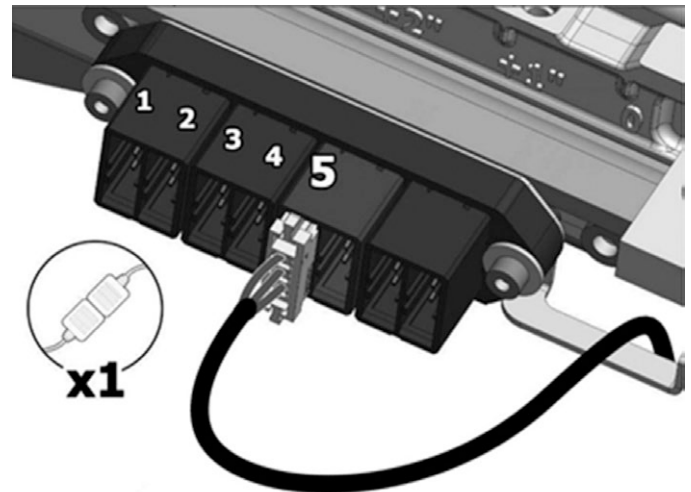

Figure 99. The Tilt Motor Cable is connected to the fifth position of the connector block.
7. Connect the Tilt motor cabling to the contact block at the seat frame. See fig. 99. Mount the cable to its cable brackets on the right hand side of the seat. See *AP Elevator Tilt Motor Cabling*, Page 79.